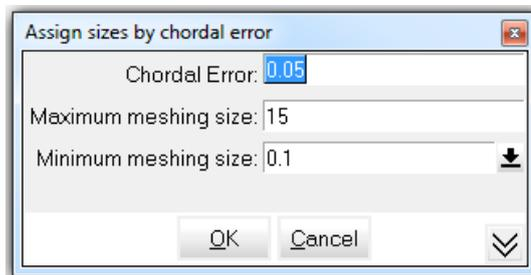

Figure 46. Chordal error window.
- 2 . Provide the values shown in figure 46.